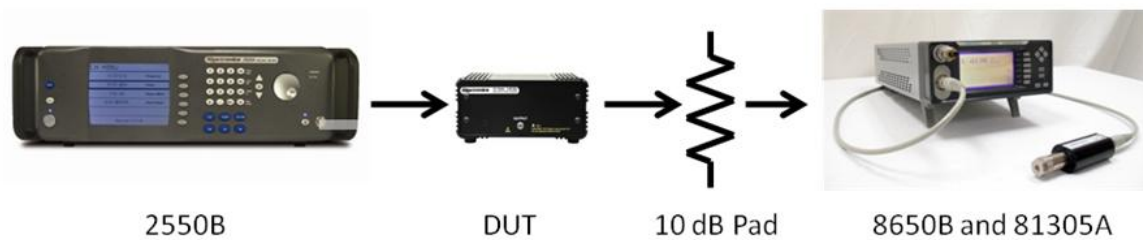

Figure 9: GT-1051A Performance Verification Setup
The test setup is shown in Figure 9. The procedure is shown in Table 12 and starts on page 16.
1.	Connect equipment as shown in Figure 9.